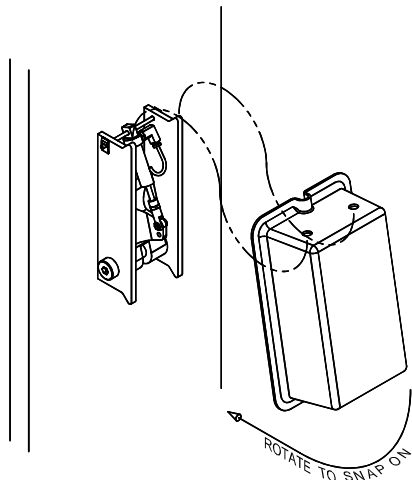

Fig 9
12. Connect 1/8" air line as shown in **Fig 8** from button valve assembly to brass union tee. Connect air line from brass union tee to air cylinder. Connect air line from brass union tee up to hole in top of power column. Route through hole in power column, staying inside the overhead follow to hole in idler column. Route through hole and down column to air cylinder. Attach air line to column and overhead using the adhesive tabs and wire ties provided. **IMPORTANT: Do Not kink or pinch the air line.** Connect button valve assembly to a source of **clean, dry air** using the hose barb and clamp provided. Snap the covers onto column. See **Fig 9**.